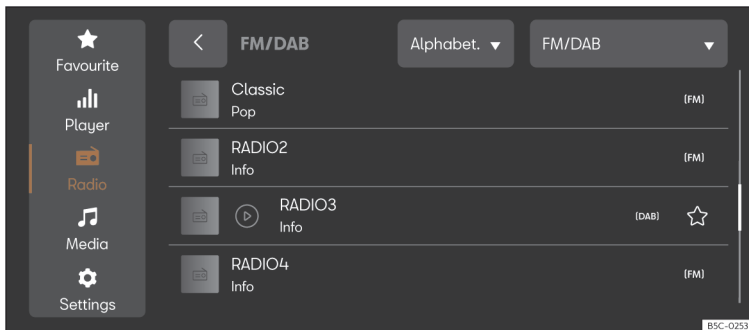

Fig. 177 Schematic representation: Radio view.
- Press **HOME** > >>> **Fig. 177**.